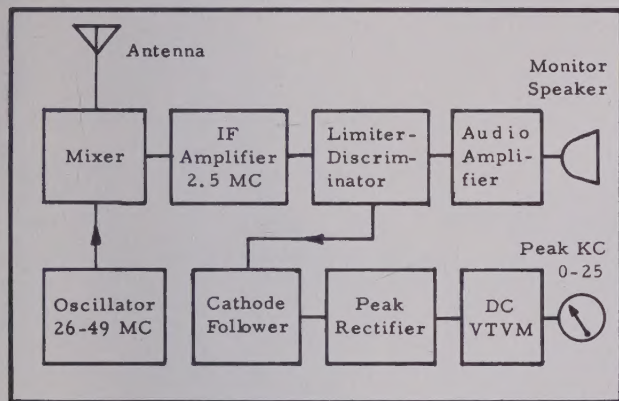

Fig. 1. Block Diagram of Type 205A FM Modulation Meter.
A block diagram, or functional schematic, of the Type 205A meter is drawn in Figure 1. A signal from the transmitter to be measured is picked up by the antenna and impressed on the grid of a mixer tube, along with a second signal from a conversion oscillator; the conversion oscillator (VFO) is tunable over a frequency range of approximately 26 to 49 megacycles. As it is tuned, its fundamental frequency, or one of the harmonics, will come within 2.5 MC of the transmitter frequency; as any one or more of these points are passed, the difference frequency will be selected and amplified by the tuned intermediate-frequency (IF) amplifier, then fed to a pentode-type limiter; there is a moderate amount of automatic-gain-control voltage which is fed back to the mixer tube, from the limiter. The limiter cuts down the signal to a fixed level of voltage — free from amplitude modulation or variation due to input strength — which then drives the discriminator.
Of the blocks shown in the functional diagram of Figure 1, the two which contribute most to the performance of the 205A monitor are the conversion oscillator, and the discriminator.